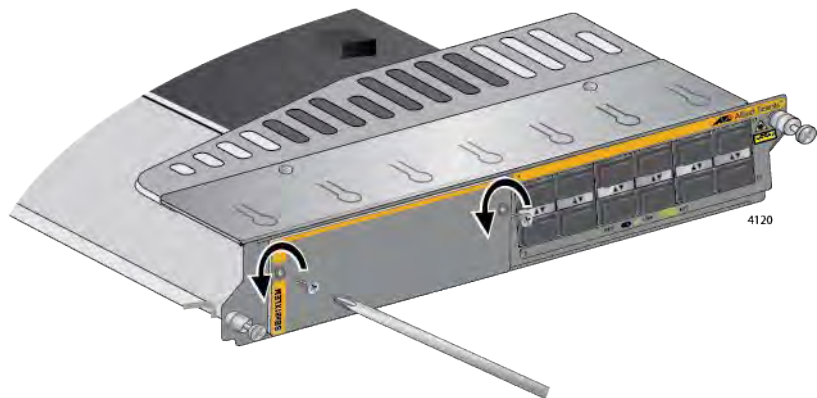

Figure 82. Removing the Screws on the Blank Slot Cover on the AT-SBx81XLEM Line Card
4. With a #2 Phillips-head screwdriver, remove the two screws that secure the blank slot cover to the card. Refer to Figure 82.